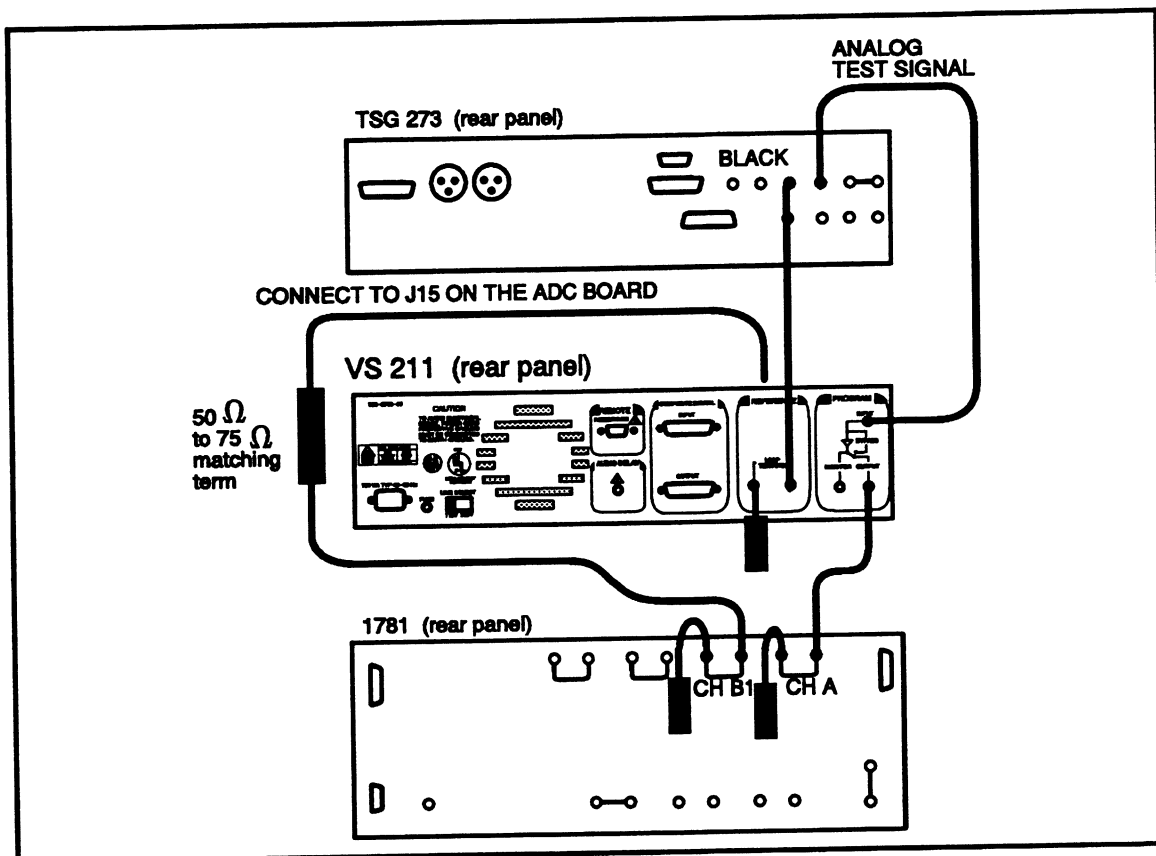

Fig. 4-4. Setup to adjust the ADC frequency response.
- a. Connect the test equipment as shown in Fig. 4-4.
- c. Connect the waveform monitor to J6 on the VS 211 (software version 2.0) as shown in Fig. 4-4, using an SMB to BNC cable. (See the regular Service manual for the construction of this cable.)